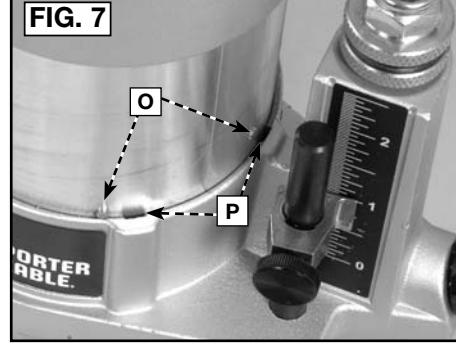

FIG. 7
2. Insert the motor unit into the base with the switch positioned at the front of the left handle. Align the four pins (O) Fig. 7 (two of which are shown) in the motor case with the slots (P) Fig. 7 in the base.